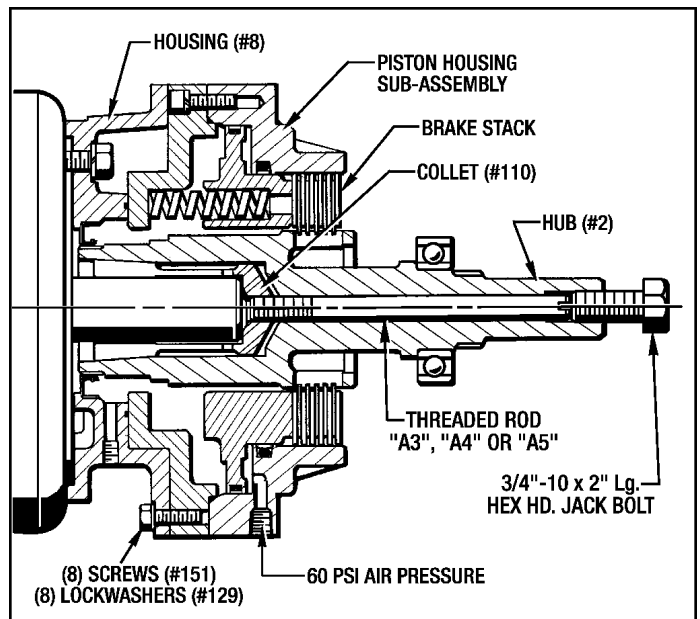

Figure 3.7 - Installing Piston Assembly & Brake Stack
12. Apply 60 PSI air pressure to the brake port as shown in *Figure 3.7*.
**NOTE** - The brake stack configuration shown on *Figure 3.7* is only an example. Your brake stack may be different as determined by your torque requirements.
15. Install the End Housing (#9) to the Piston Housing (#10) with (8) Screws (#72) and (8) Lockwashers (#128) and finalize the Position Alignment of the Hub (#2) with the **Same Procedure as described in Section 9-10 & 9-11.**